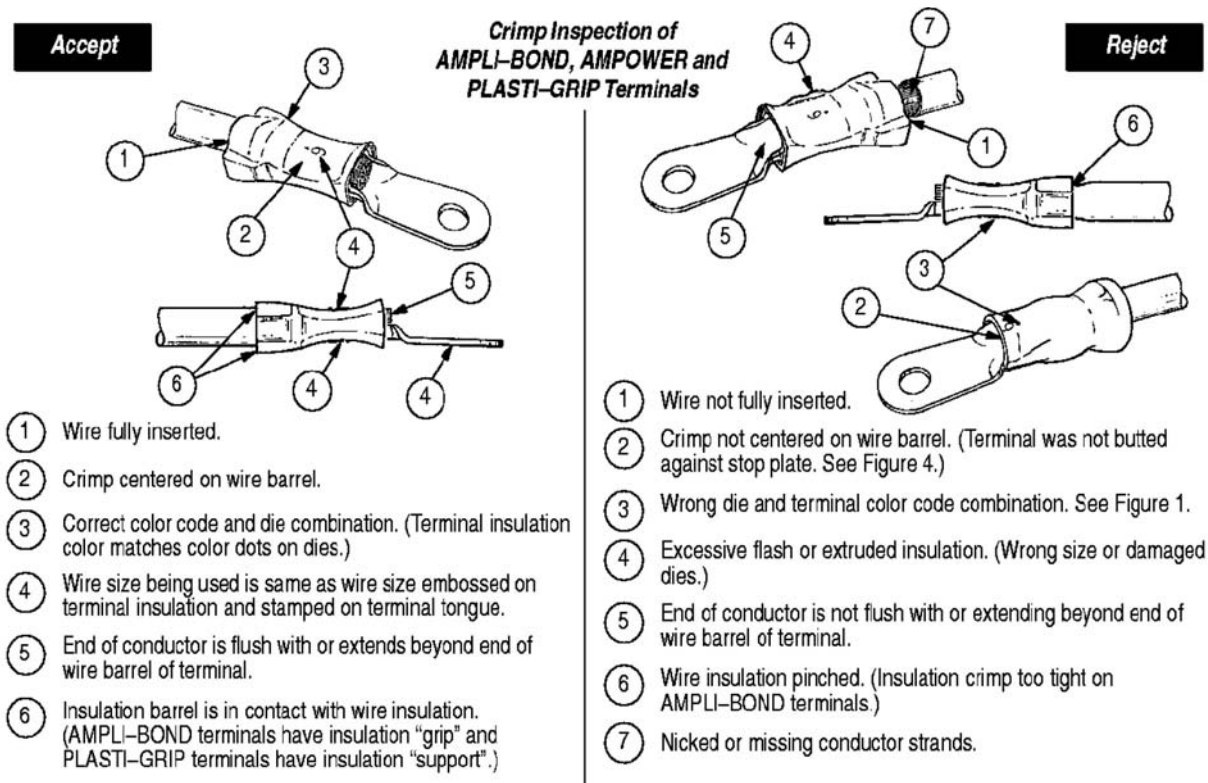

Figure 4
11. Refer to Paragraph 3.4 and Figure 4 for crimp inspection procedure.
Inspect crimped terminals by checking the features described in Figure 4.
AMPLI-BOND terminals are shown in Figure 4. Inspection procedure is the same for AMPOWER and PLASTI-GRIP terminals.